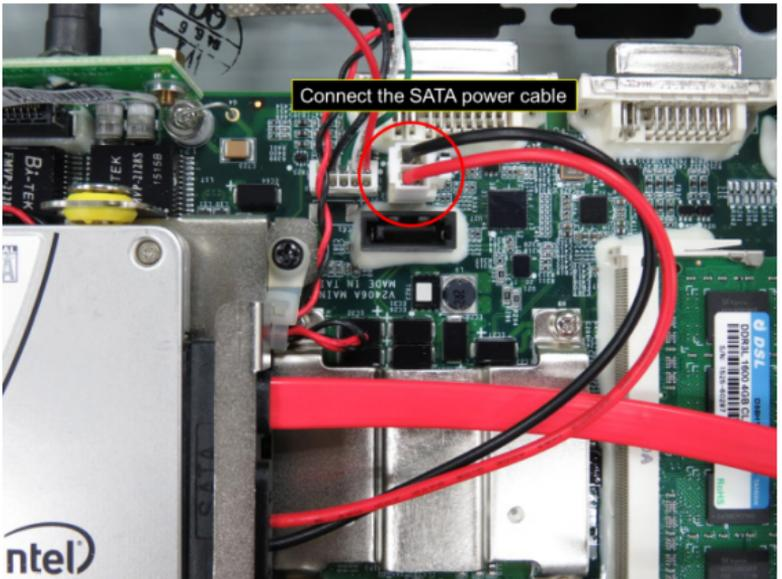

Figure 30
4.3.5 Connect the free end of the SATA power cable to the mainboard as shown in Figure 30.